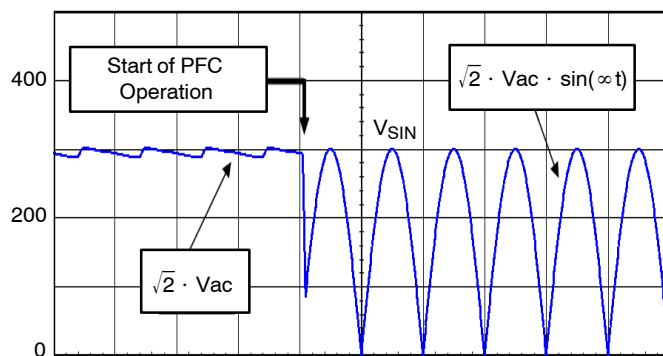

Figure 69. Typical Input Voltage of a PFC Stage
i.e., about 64% of the previous value. Therefore, the same line magnitude leads to a V_{Pin2} voltage that is 36% lower when the PFC is working than when it is off (refer to Figure 69). That is why the NCP1605(A) features a 50% hysteresis ($V_{BO L} = 50\% V_{BO H}$).